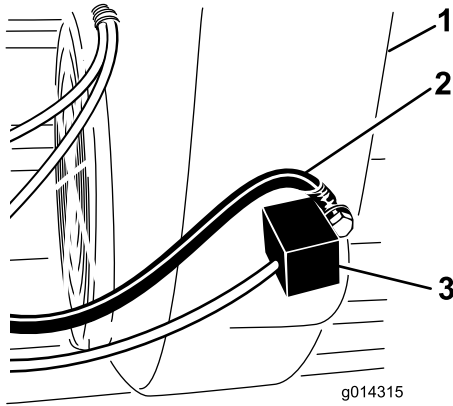

Figure 5
7. Locate the engine ignition module on the underside of the engine shroud (Figure 5). It is on the forward end of the engine assembly.